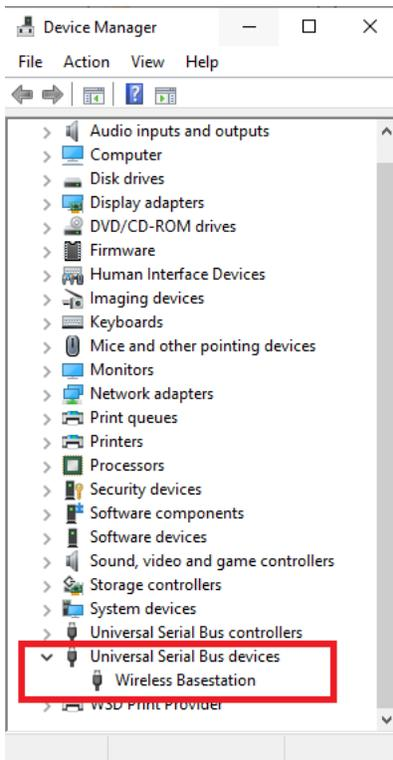

Figure 4.5: *Wireless Base-station displayed in Device Manager after successful USB driver installation.*
7. Once the installation is complete, confirm that *Wireless Base-station* appears under the *Universal Serial Bus devices* tab in Device Manager (Figure 4.5).